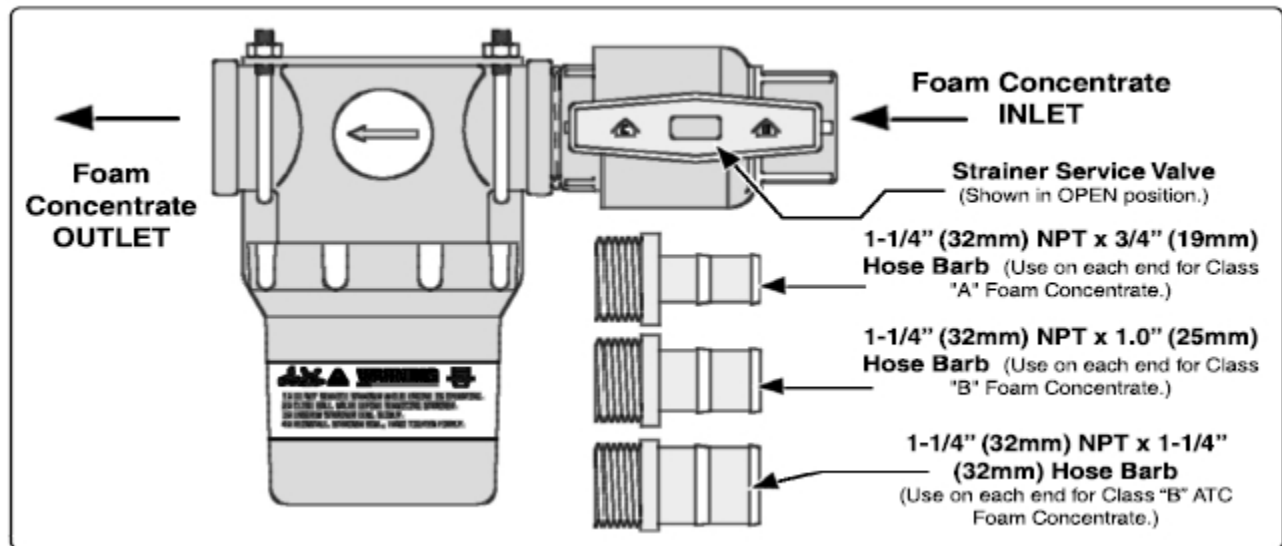

Figure 33: In-Line Strainer/Valve Installation
The strainer/valve assembly has 1-1/4" (32 mm) NPT female threaded ports. Fittings are supplied for connection to the following inside diameter hose, depending on the viscosity of foam concentrates used (**Figure 33**).
Use 3/4" (19 mm) inside diameter hose for Class "A" foam and a 1.00" (25 mm) inside diameter hose for Class "B" foams. For high viscosity Class "B" foam concentrates use 1-1/4" (32 mm) or 1-1/2-in (38 mm) inside diameter hose (**Figure 33**). A bracket is included to permit installation on the apparatus.
4. Select the appropriate fittings from the bag attached to the strainer assembly. Two of each fitting are included with the strainer assembly. For fitting selection vs. type of foam concentrate, refer to **Figure 33**.
6. Install the clear plastic hose from the foam tank outlet to the inlet of the strainer/valve assembly (**Figure 33**). Wet the ends of the hose and fittings to make the installation easier.